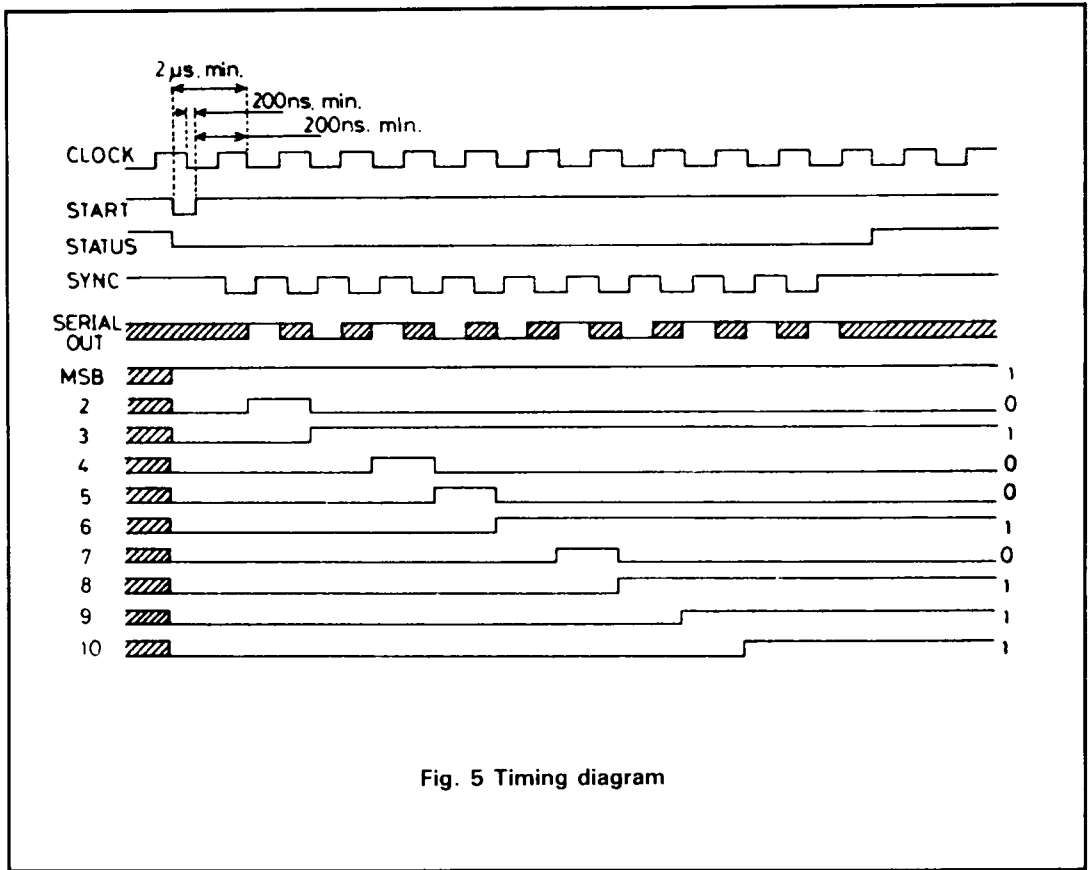

Fig. 5 Timing diagram
3. This corresponds to a maximum clock rate of 550kHz based on 11 clock periods per conversion cycle (see Fig. 5). This provides an update rate of 45kHz.